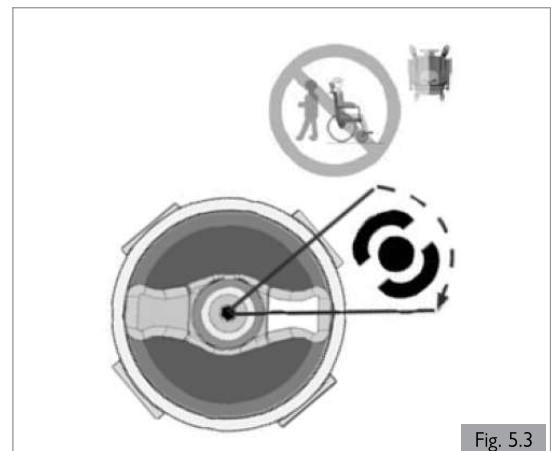
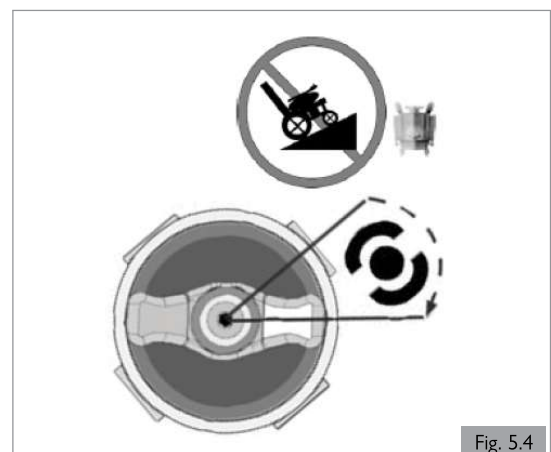

Fig. 5.3
Fig. 5.4
2. For disengaging the motors (Fig. 5.3 and Fig.5.4).